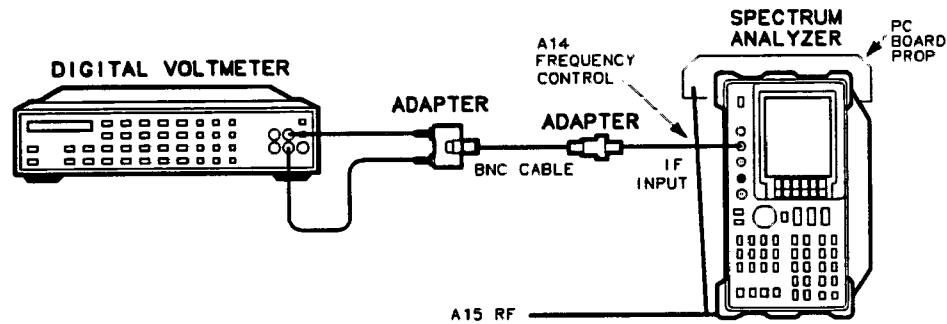

Figure 2-16. External Mixer Bias Adjustment Setup
1. Set the HP 8562A/B **LINE** switch OFF and disconnect the power cord. Remove the analyzer's cover and connect the equipment as illustrated in Figure 2-16. Reconnect the power cord and set the **LINE** switch ON.